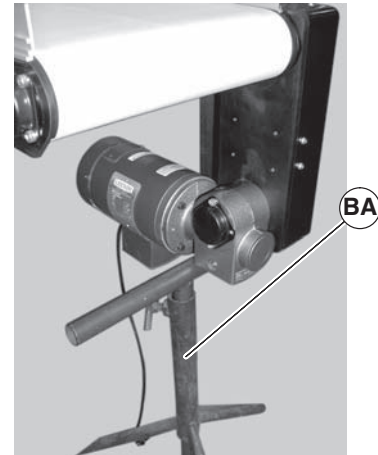

Figure 40
- a. Use a temporary support (Figure 40, item BA) to support Gearmotor.